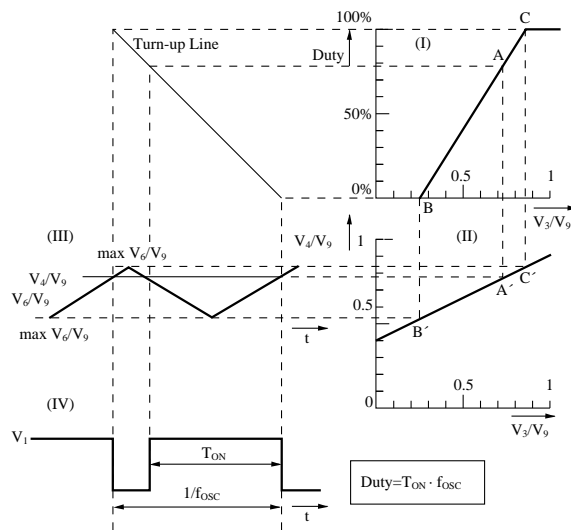

Fig. 2 I/O Characteristic Chart
The PWM method is used to control the output transistors. This method, as shown in Fig. 2 I/O Characteristic Chart (III), generates the triangular wave  $V_6$  as a reference signal
For your reference, Fig. 3 shows the relations among  $C_T$ ,  $R_T$ , and oscillation frequency  $f_{osc}$ . The voltage  $V_4$ , whose voltage level is made matching the amplitude of the triangular wave by the control voltage converter, is given to the other input (Pin4) of the PWM comparator. That is, in Fig. 2 (II), the input voltage  $V_3$  is linearly converted into  $V_4$  by the control voltage converter so that the amplitude of the triangular wave will be about 20% to 80% of the input voltage input range (axis of abscissas in Fig. 2 (II)).
Then, a current is supplied from the output Pin1 to turn on the output transistors during the period ( $T_{ON}$ ) when the inverted input voltage is larger than the triangular wave. (Fig. 2 (II), (IV)) To the contrary, while the converted input voltage is smaller than the triangular wave, no current is supplied from the output Pin1 and the output transistors are turned off. The output pulse duty is expressed as follows.